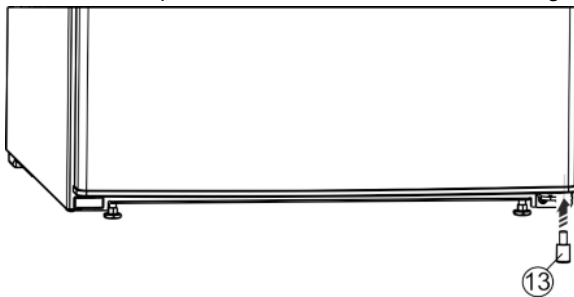

Fig. 7
- ▶ Insert the spacer Fig. 7 (13) back under the right-hand side of the door, as it is important for the stability of the appliance.